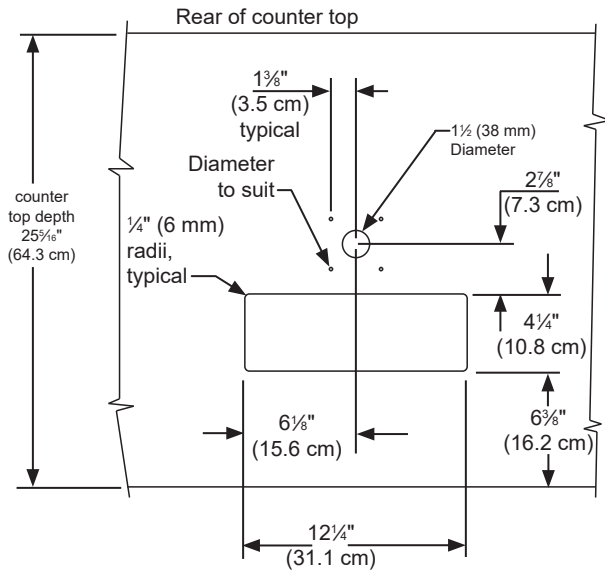

Figure 38
The cutout dimensions shown in Figure 38 are based on a 25 $\frac{5}{16}$ " (64.3 cm) deep counter top. Your counter top may be different than this and require other front to back dimensioning. Refer to the product dimensions on page 6 when determining the required dimensions.
- If you are installing your keg refrigerator under a counter you will need to drill 5 holes in the counter top to mount the tower. The first hole is a 1 $\frac{1}{2}$ " diameter hole located at the center of the tower for the beer line, locate approximately 13 $\frac{1}{2}$ " (34.3 cm) from the front edge of the counter top (based on a counter top depth of 25 $\frac{5}{16}$ "). Next drill the 4 tower mounting holes per the dimensions in Figure 38. The hole diameter is dependent on the counter top material and if screw anchors are required. The screws supplied are in the literature pack and are a #10 x 1" type AB stainless steel screw. Mark and cut the rectangular cutout for the drain sump. After the holes are drilled and the keg refrigerator is in place under the counter top feed the beer line through the tower gasket, the 1 $\frac{1}{2}$ " hole in the counter top and the hole in the top of the keg refrigerator. Mount the tower to the counter top with the 4 screws provided. Place the counter top drain sump, from the literature pack, in the rectangular hole with the radius cutout to the rear around the tower and place the grate in the sump.